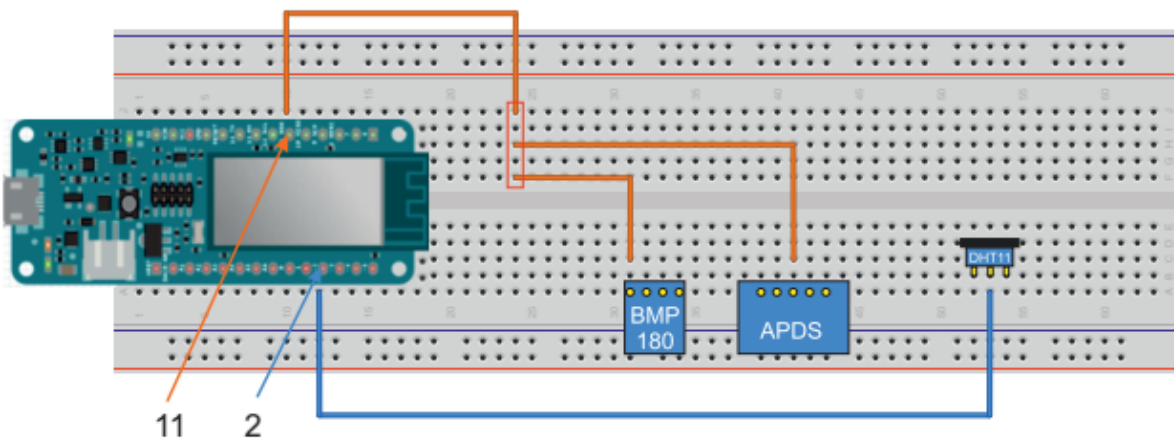

Figure 5. Connection step 2 - connecting sensors to Arduino MKR board
2.1.2. Connection step 2 (Figure 5):